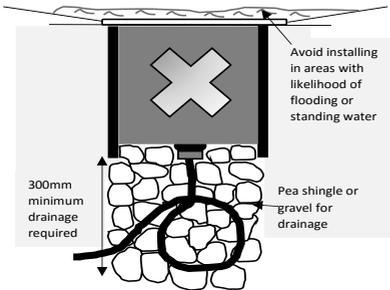
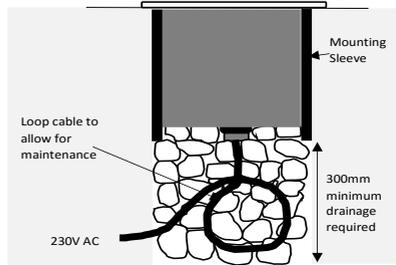
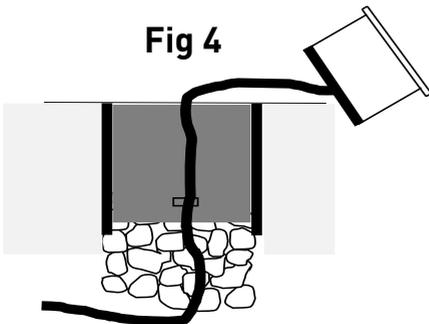

Fig 4
Fig 5
Fig 6
- Avoid installing in areas where water will sit on top of the fitting for long periods of time (see Fig 4)
- Ensure a minimum of 300mm drainage is put in below the luminaire (see Fig 4). **Note:** the drainage below the luminaire should be able to drain the water away within 30 minutes
- Ensure there is enough cable below the fitting in order to carry out maintenance work. The final circuit connection should also be accessible (see Fig 4, Fig 5 and Fig 6)